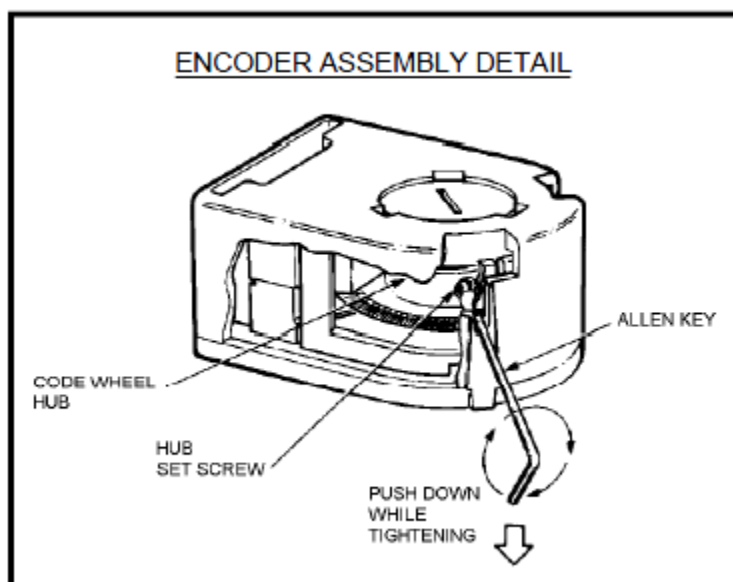

Figure T-7: Setting the Encoder
4. Push the Allen Key into the body of the encoder to ensure that it is properly seated into the code wheel hub set screw (Figure T-7). Apply a downward force on the end of the Allen key. This sets the code wheel gap by levering the code wheel hub to its upper position. While continuing to apply a downward force, rotate the Allen Key to the clockwise direction until the hub set screw is tight against the idler shaft. Remove the Allen Key by pulling it straight out of the encoder body.